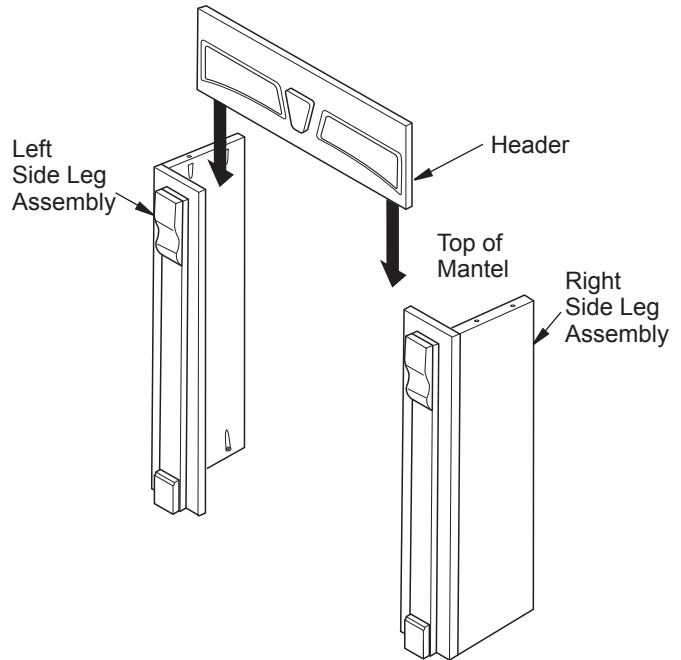
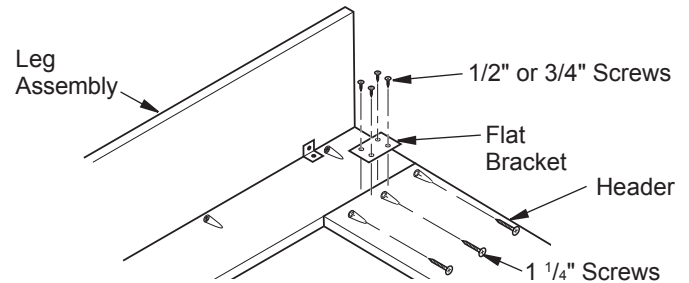

Figure 3 - Installing Header
Figure 4 - Installing Header and Brackets
3. Place header between right and left leg assemblies (see Figure 3). Make sure header and legs are snug against each other. The top of the header must be flush with the top and sides of leg assemblies. Attach header through predrilled holes with 1 1/4" screws on each leg assembly as shown in Figure 3. Attach flat brackets with 1/2" or 3/4" screws using 1 flat bracket and 4 screws per side (see Figure 4).